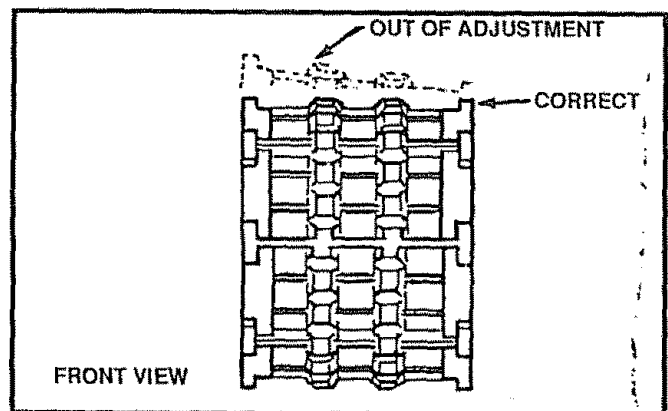

FIG. 39
- Adjust the track to reduce slack, so that the distance between the top of the side plate and the inside of the track is not greater than two (2) inches. Be sure the cam washers are adjusted evenly or the track will be twisted (See Fig 39). If the track becomes twisted, readjust the cam washers to the correct adjustment.